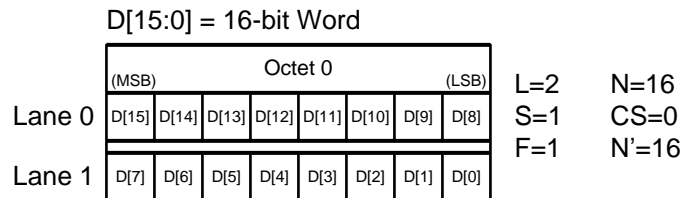

Figure 34. Transport Layer Definitions for the Supported-Lane Configurations
The lanes per device (L), octets per frame (F), samples per frame (S), and high-density mode (HD) parameters are not independently configurable. The N, N', CS, CF, M, and HD parameters are fixed and not configurable. Table 2 lists the available JESD204B formats and valid ranges for the ADC31JB68. The ranges are limited by the Serdes line rate and the maximum ADC sample frequency. Figure 34 shows the data format.